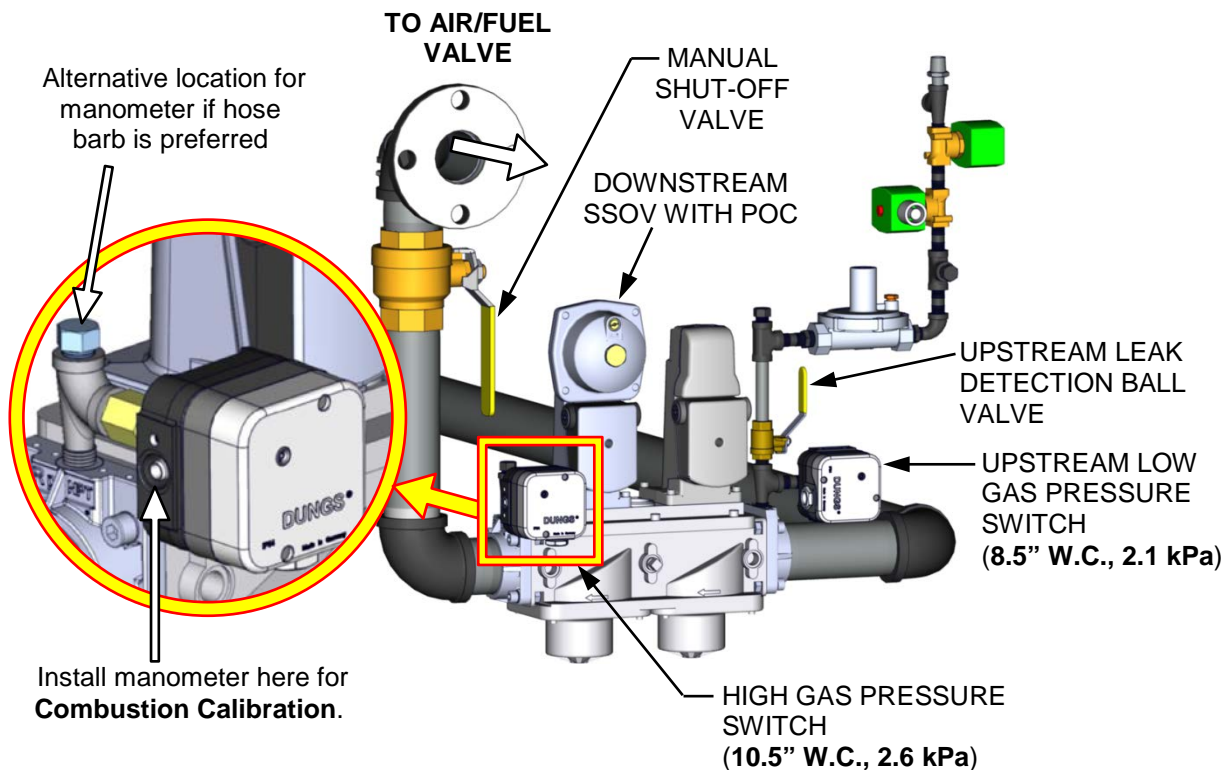

Figure 4-1: Port Location for Combustion Calibration
The gas supply manometer is installed at the downstream location shown in Figure 4-1.
3. To monitor the gas pressure on the downstream side of the SSOV during Combustion Calibration (section 4.4), locate the port on the side of the High Gas Pressure switch, as shown in Figure 4-1, and loosen the screw inside a few turns to open. Do not remove this screw completely. Alternatively, you can remove the 1/4 inch plug shown in Figure 4-1 and install a hose barb fitting in that location.
The Pilot Burner should be inspected at the beginning of each heating season, or every 6 months for continuous operation units. It is constructed of high quality, heat resistant stainless steel materials, however some darkening of the metal is to be expected. No adjustment of the Pilot should be required, however the gas pressure downstream of the regulator should be checked if an ignition issue is encountered. Refer to Figure 4-1 for test port location.